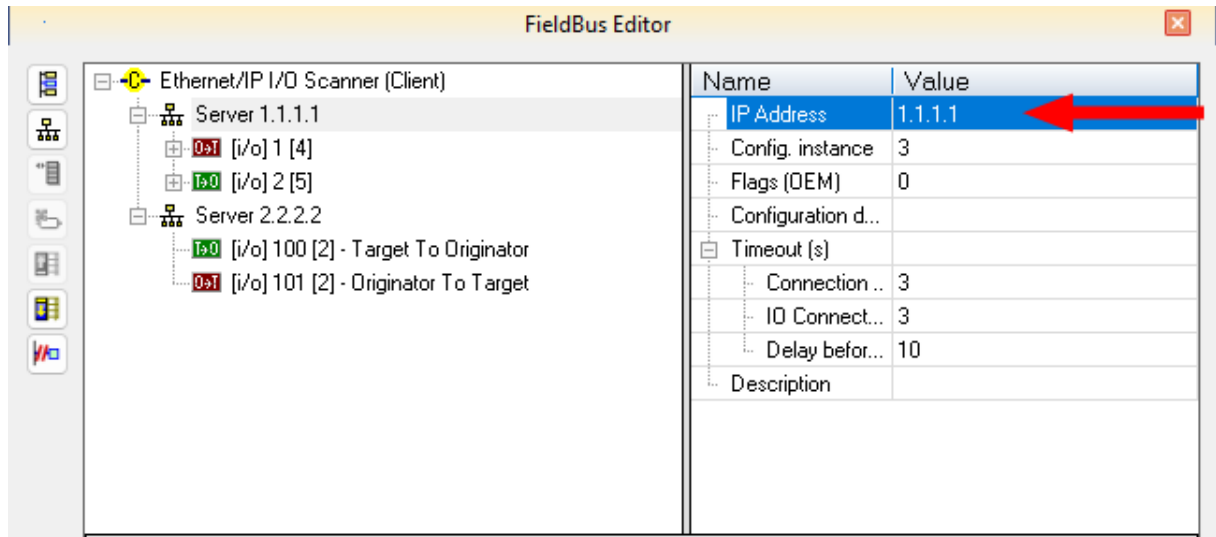

Figure 4-7: Alias IP address
- Under the Server nodes, update the IP address to match the alias values from the XML file. (Figure 4-7)